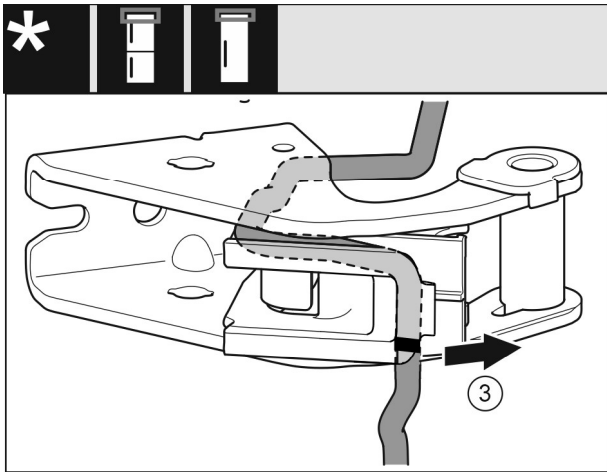

Fig. 27
- ▶ Remove the cable with the cable bracket Fig. 27 (3) from the swap bearing block.